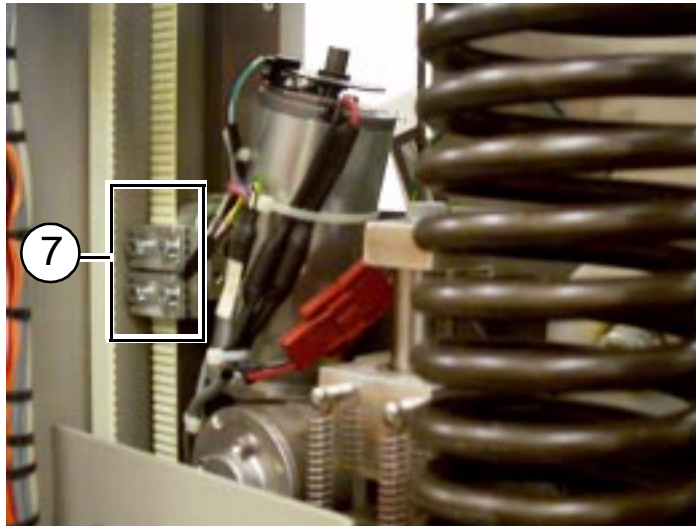

Fig. 6
5. Open the drive belt (see Fig. 6, pos.7).
7. Secure the new drive belt (see Fig. 6, pos.7).